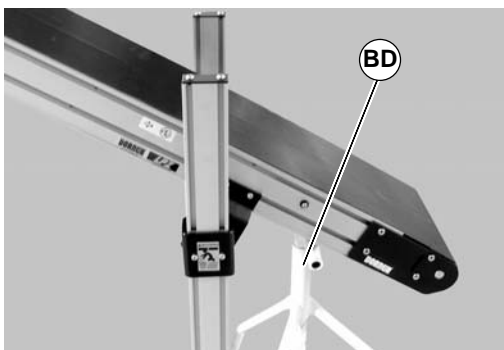

Figure 40
1. Place temporary support (BD of Figure 40) under conveyor sections.